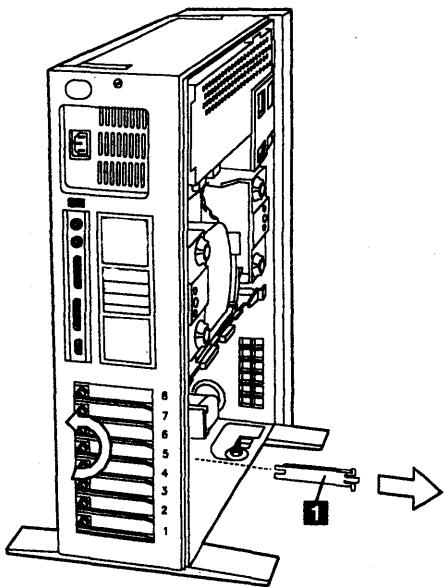

Figure 22: Removing a Slot Cover from the Model 60
15. Locate a vacant expansion slot. Loosen the thumb screw securing its slot cover, and remove the slot cover as shown in Figure 22: